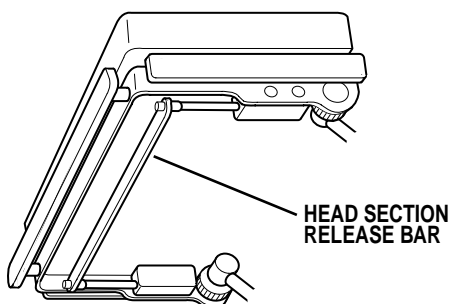

Figure 2-14. Head Section Adjustment
a. A quick release positioning bar located under and to the front of the head section (figure 2-14) is used to raise or lower the head section. Pull the release bar toward the head end to allow the section to pivot up or down. Positioning from 60° above horizontal to 90° below horizontal in 15° increments is available. Release the bar to lock the head section in position.